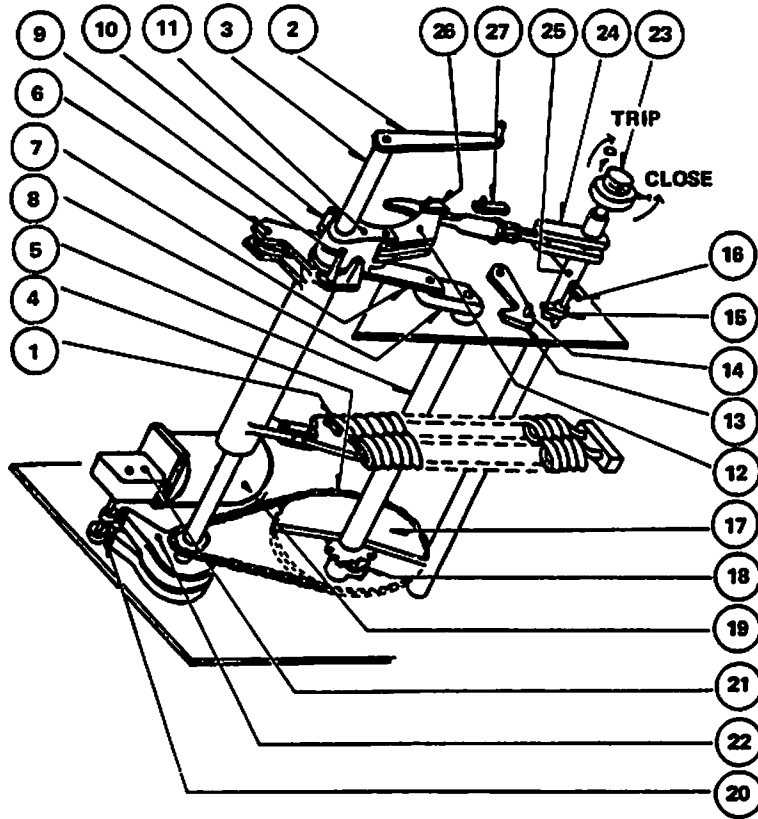

Figure 6a
7.2.1 Breaker Open—Closing Springs (1) Discharged (Figure 6a)
This is the usual operating position of the open breaker. The springs can be charged as follows: (Fig. 6a).